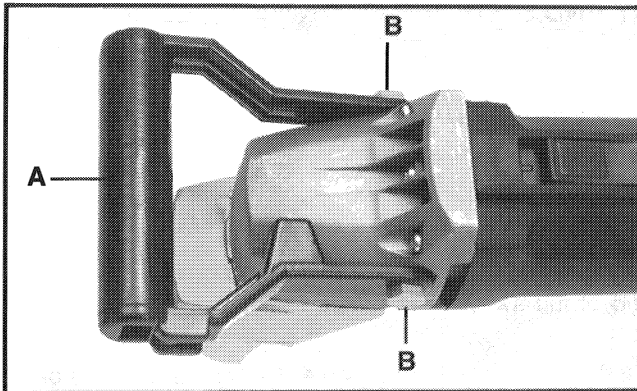

Fig. 3
An auxiliary handle (A), Fig. 3, is assembled to the machine at the factory. USE THIS HANDLE AT ALL TIMES to maintain complete control of the machine.